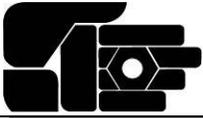

Figure 12
1. Tighten all screws by number only using two fingers on the hex key. Do not crank them down real tight, it should be a soft snug. Figure 12 shows the pattern.
2. Orient your test indicator as shown in figure 12 and zero it.